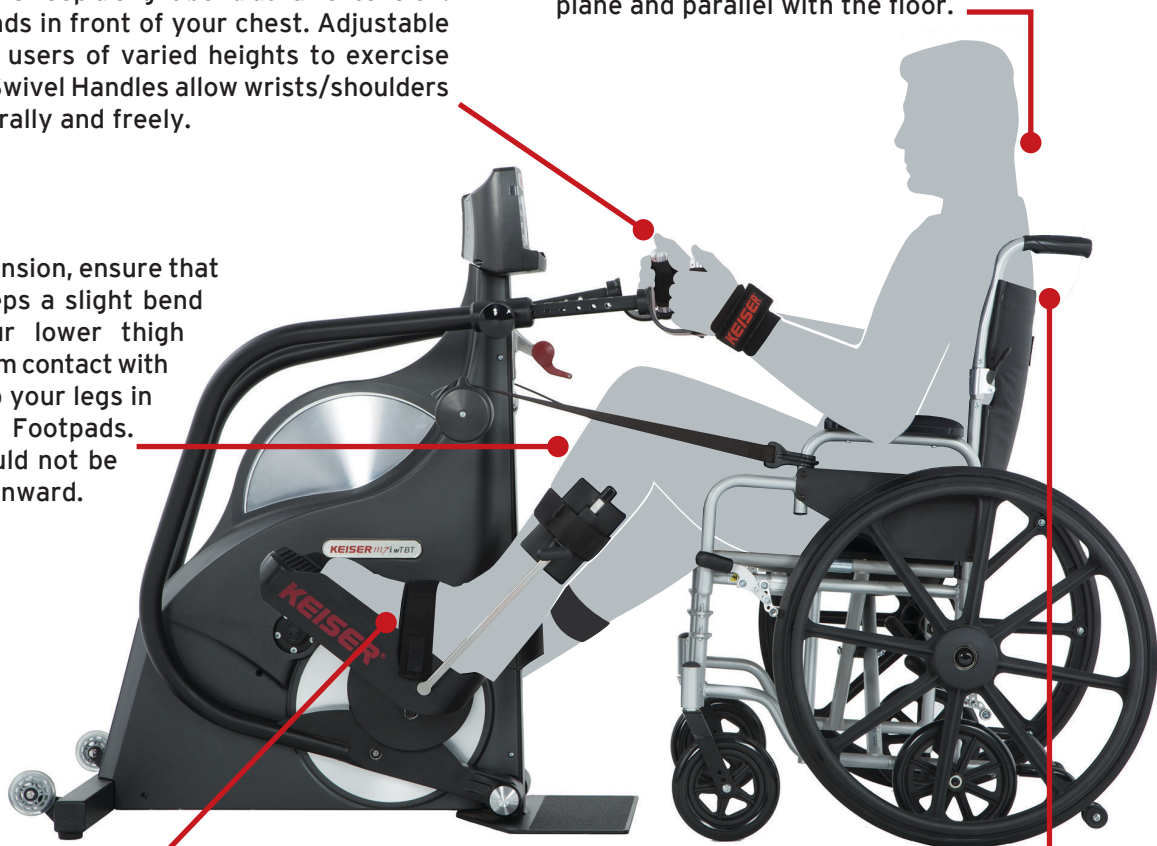

Figure 9. Biomechanical Positioning
Proper biomechanical positioning is necessary for a safe, comfortable, and effective workout. The following steps should be taken prior to every workout. Figure 9 “Biomechanical Positioning” shown below demonstrates proper positioning throughout your workout:
**Independent Upper Body Training** (Figure 11) is an advanced workout position that focuses on upper body muscle groups for a high-intensity cardiovascular exercise. A firm grip and complete control of the Handles are required for optimal workout and to prevent injury. Optional Adaptive Wrist Straps are available for individuals with limited or impaired grip (shown in Figure 9). Consult your physician to determine if these items are right for you.
**Independent Lower Body Training** (Figure 12), is an advanced workout position focused on lower body muscle groups for a high-intensity cardiovascular exercise. Optional Leg Stabilizers are available for individuals with limited leg control (shown in Figure 9). Consult your physician to determine if these items are right for you.